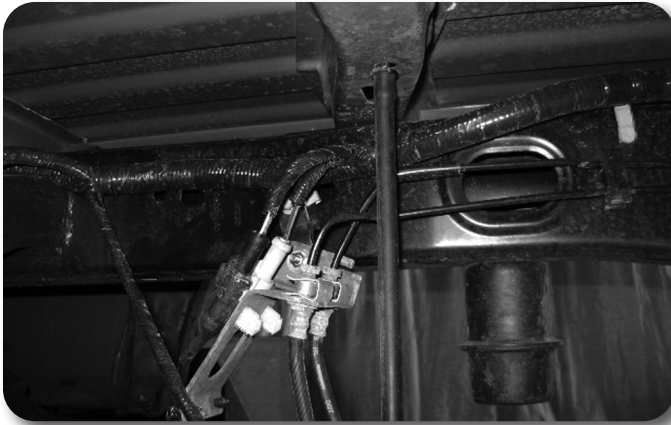

Figure 19
58. Install the provided brake line relocation bracket (05025) to the driver's side frame rail with the OE brake line bracket bolt **Figure 19**. Torque to 15 ft-lbs.